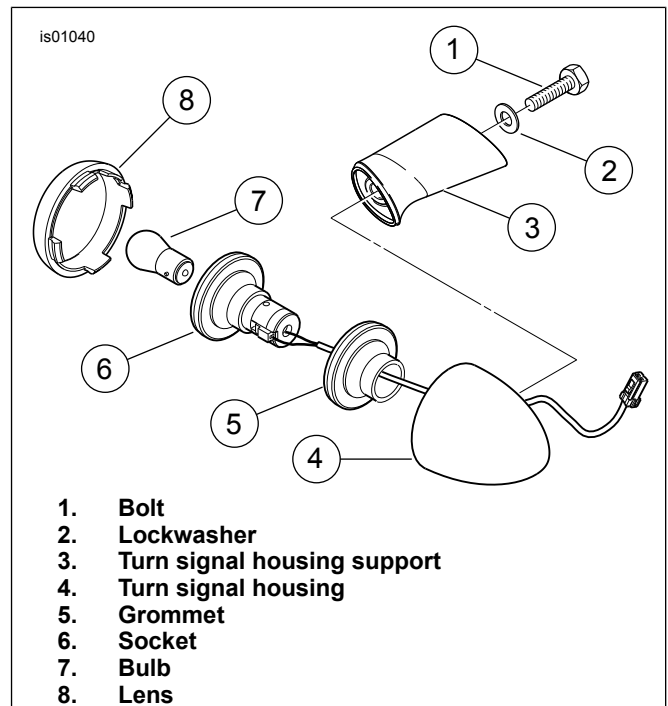

Figure 1. Stock Turn Signal Removal
2. See Figure 1. Remove lens (8) from rear turn signal housing (4). Remove bulb (7) from the socket of reflector (6).
6. See Figure 1. Install the left side turn signal bulbs (7) into the sockets (6). Install the lenses (8) in the left side turn signal housings (4).